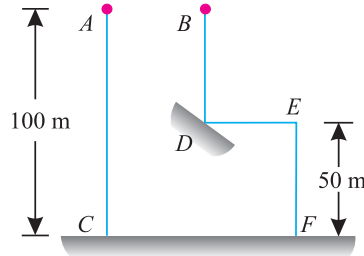

Fig. 17.3.
**Example 17.24.** Two particles A and B are dropped simultaneously from rest two points both 100 m above the ground. Particle A falls on the ground, while the particle B in its mid path, hits a fixed plane inclined to the horizontal as shown in the Fig. 17.3.